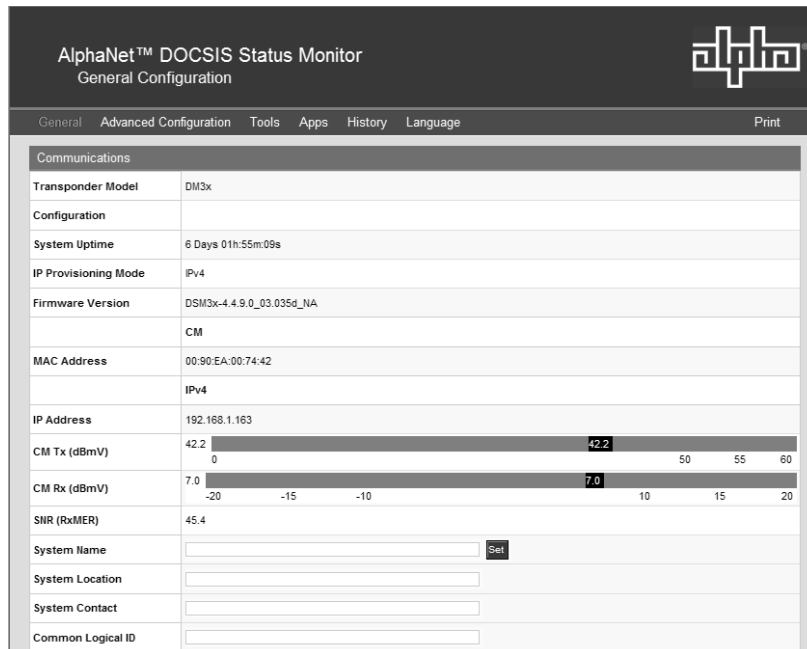

Fig. 8, General Page
- Connect the computer to the cable modem network, launch an Internet browser (e.g. Internet Explorer) and enter the designated transponder IP address in the address field. The General Configuration page will appear (Fig. 8).